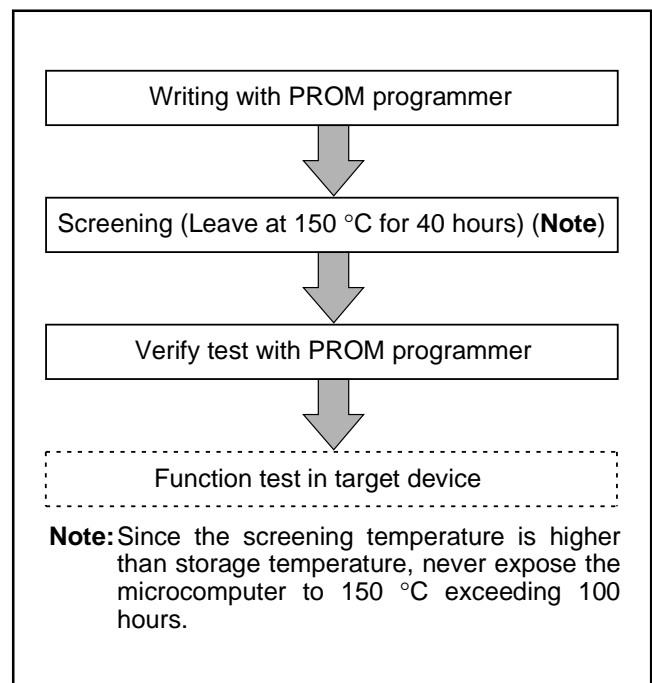

Fig. 53 Flow of writing and test of the product shipped in blank
Table 20 shows the product of built-in PROM version. Figure 53 shows the pin configurations of built-in PROM versions.
(2) Notes on handling
① A high-voltage is used for writing. Take care that overvoltage is not applied. Take care especially at turning on the power.
② For the One Time PROM version shipped in blank, Mitsubishi Electric corp. does not perform PROM writing test and screening in the assembly process and following processes. In order to improve reliability after writing, performing writing and test according to the flow shown in Figure 53 before using is recommended (Products shipped in blank: PROM contents is not written in factory when shipped).